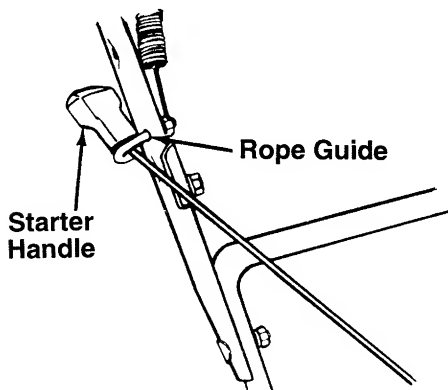

FIGURE 7.
3. Place the rope guide around the starter rope, so the rope guide is positioned as shown (bends downward slightly). See figure 7. Insert the rope guide through the right side of the upper handle, above the cable bracket, and secure with hex lock nut.